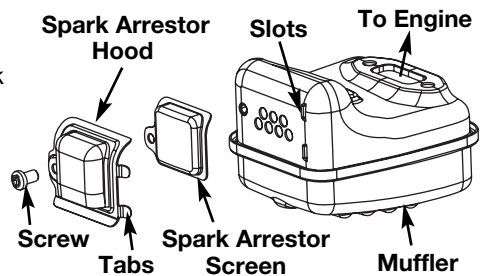

Fig. 22
2. Locate the muffler, **but do not remove it**. Find the screw on the bottom of the muffler (Fig. 22). This screw holds the Spark Arrestor Hood Assembly and the spark arrestor screen to the bottom of the muffler. Remove this screw using either a Torx T20 or flat blade screwdriver.
6. Place the spark arrestor plate on top of the spark arrestor screen with the raised side up and the opening facing toward the engine (Fig. 22).
7. Place the spark arrestor hood on top of the spark arrestor plate with the “raised” side up and the opening facing AWAY from the engine (Fig. 22). Verify that the exhaust will be directed AWAY from the engine.